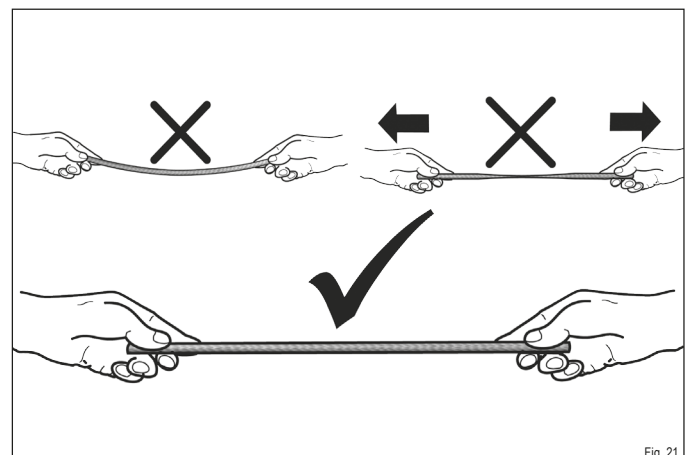

Fig. 21
- ▶ When installing the seal, ensure it does not sag and is slightly compressed (Fig. 21).